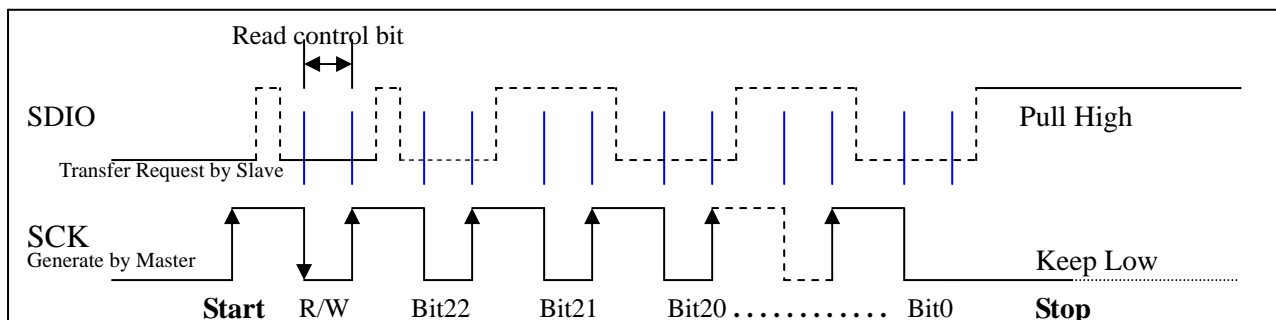

Fig.4 Read Cycle
- ◆ Master read data from Slave side (Slave transmits data to master). Please refer to Fig.4.